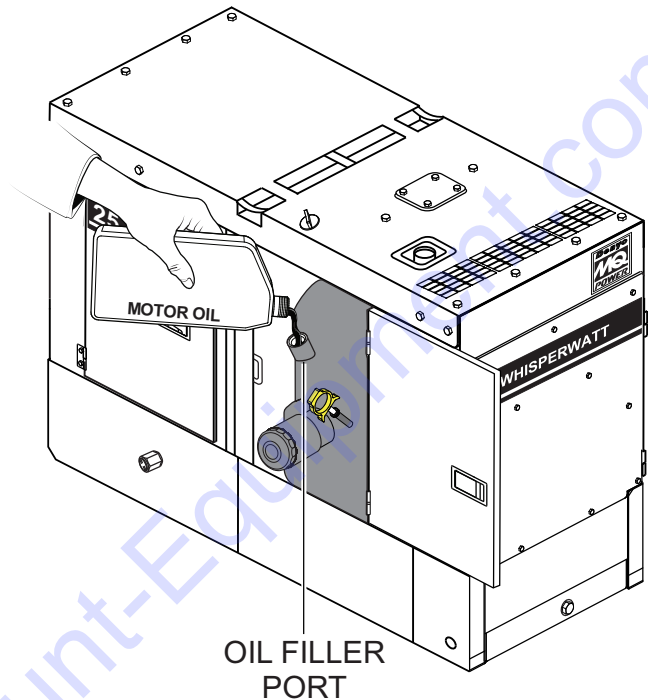

Figure 28. Engine Oil Filler Port
5. If the engine oil level is low (Figure 27C), remove the oil filler cap (Figure 28) and fill to a safe operating level (max) as indicated by the dipstick (Figure 27A). Fill with recommended type oil as listed in Table 11. Maximum oil capacity is 2.5 gallons (9.7 liters).